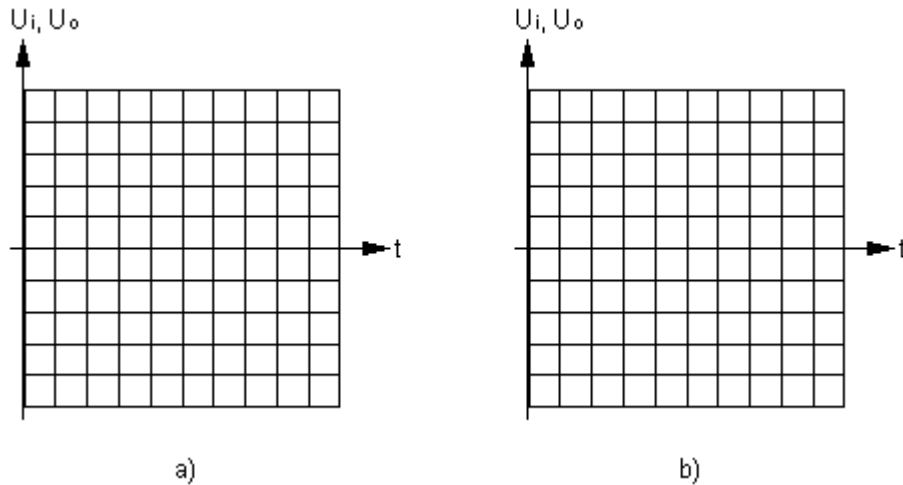

Fig. 3.8 : a) half-wave rectifier
$U_{o\max} \approx \frac{1}{2} U_{i\max}$. In almost all applications the voltage divider R-R is replaced by the secondary of a centered-tapped transformer (like in Fig. 3.8)
10. draw in the signals displayed on the oscilloscope (Fig. 3.8-a);
14. connect the capacitor C in parallel to the resistor R1 and draw in the signals displayed on the oscilloscope (Fig. 3.8-a);